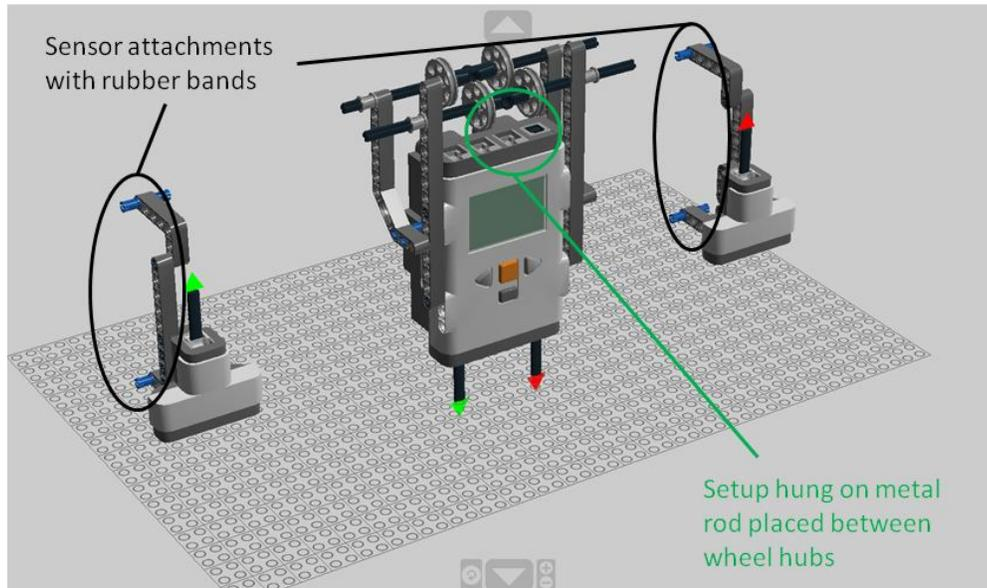

Figure 4
- Construct the setup shown in Figure 4, using the included building instructions. Once complete, attach the setup onto the seesaw, keeping both sensors equidistant from the seesaw fulcrum (legs). The sensors are attached by wrapping their respective attached structures around the 6 ft. beam, and using a rubber band on the pegs in the back of each structure to secure each of them.
Figure Insert Figure 4 here, center